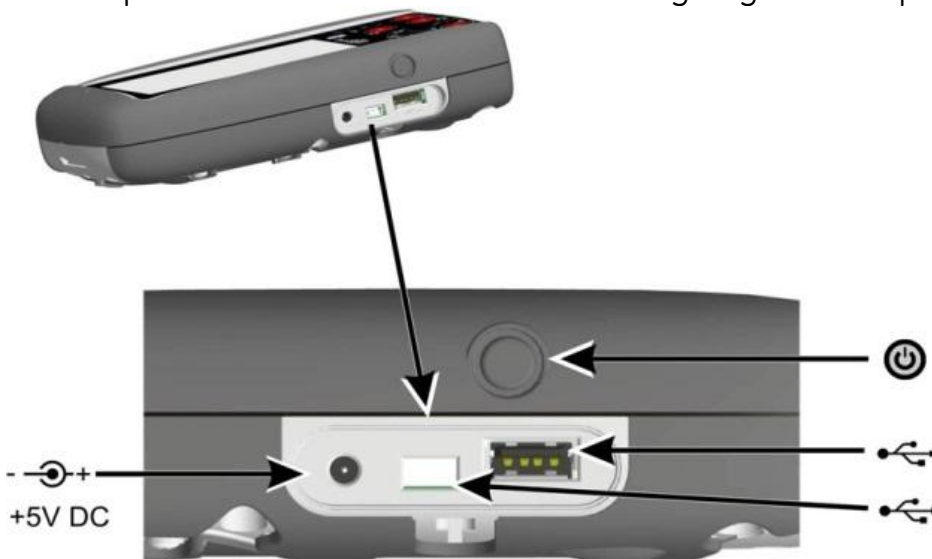

Figure 1-2
- 1. Connect the DC power supply/battery charger unit in to the +5V DC connection on the side of the unit (Ref: Figure 1-2)
- 2. The battery can also be charged using the USB connections (Ref: Figure 1-2)
From OFF – momentarily press the power button until the display flashes (Ref: Figure 1-2)